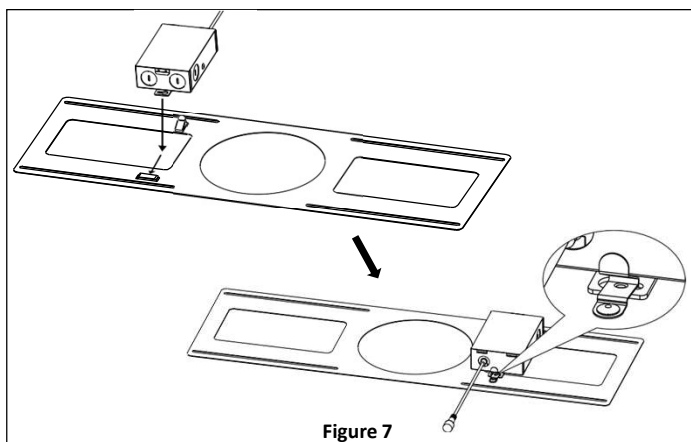

Figure 7
1. Mount the J-box to the frame by inserting one of the J-box tabs into the slot. Then press the spring clip on the frame to insert the other tab underneath the clip. **See Figure 7.**